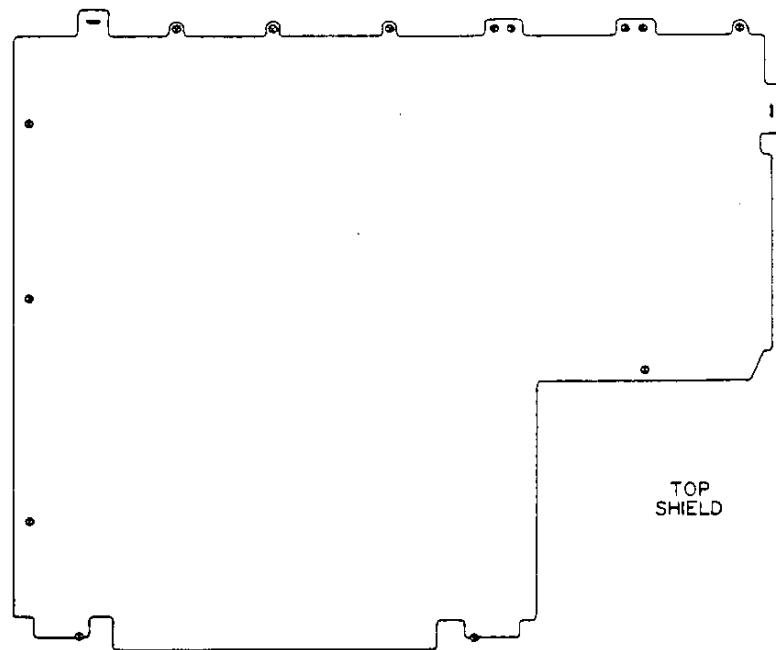

Fig. 3-7. Shield Screw/Tab Locations
3.4.3 Twist the 2 shield tabs at the right side towards the rear and the rear left corner. The positions are indicated in Fig. 3-7 with a short line.
3.4.4 As shown in Fig. 3-7, install the following screws: